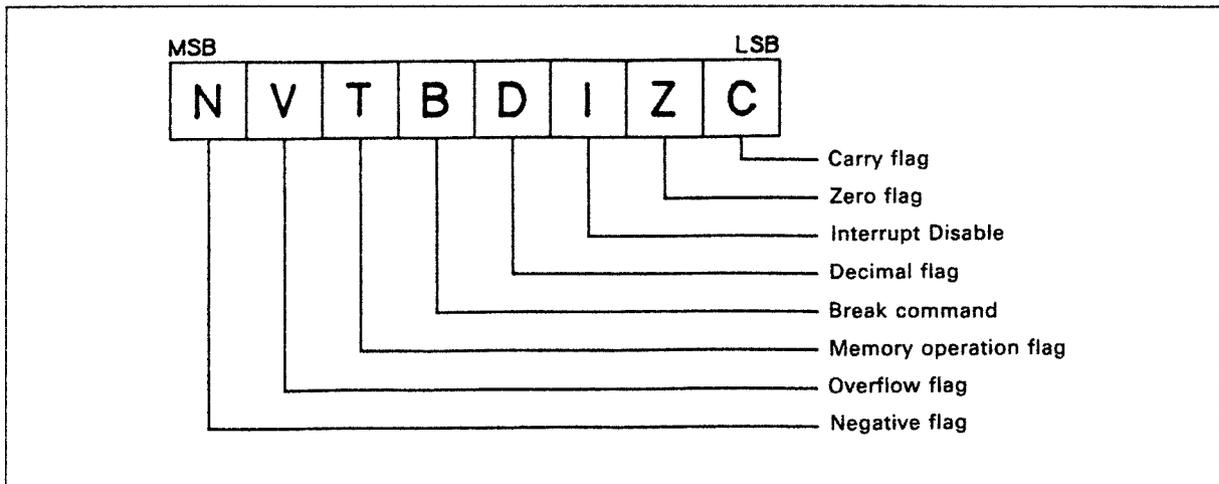

Fig. 2-1-1 Bit Organization of Status Register (P)
2.1.5 Status Register (P)
The status register (P) is an 8bit register. Its bit organization is shown in Fig. 2-1-1.